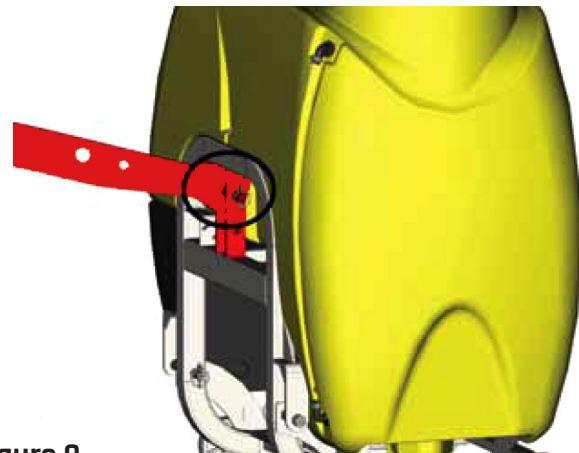

Figure 9
28) Attach the adjustable upper arm of the tractor to the appropriate level of the upper suspension points on the machine chassis and attach the safety pin. **(Figure 9)**